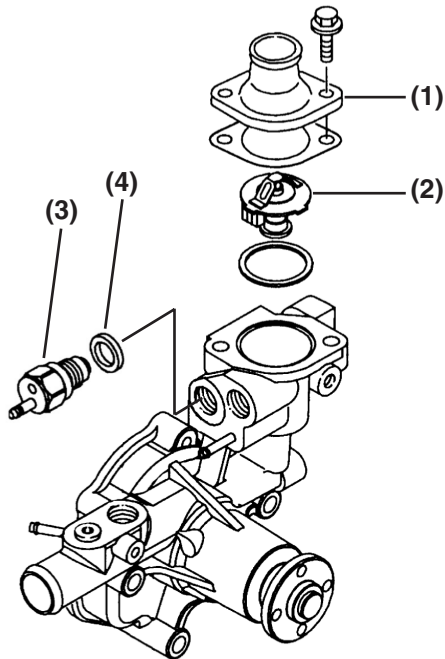

Figure 8-8
1. Remove the thermostat cover (**Figure 8-8, (1)**). Discard the gasket.
2. Remove the thermostat (**Figure 8-8, (2)**). Discard the O-ring. Remove the temperature switch (**Figure 8-8, (3)**) and gasket (**Figure 8-8, (4)**). Discard the gasket.